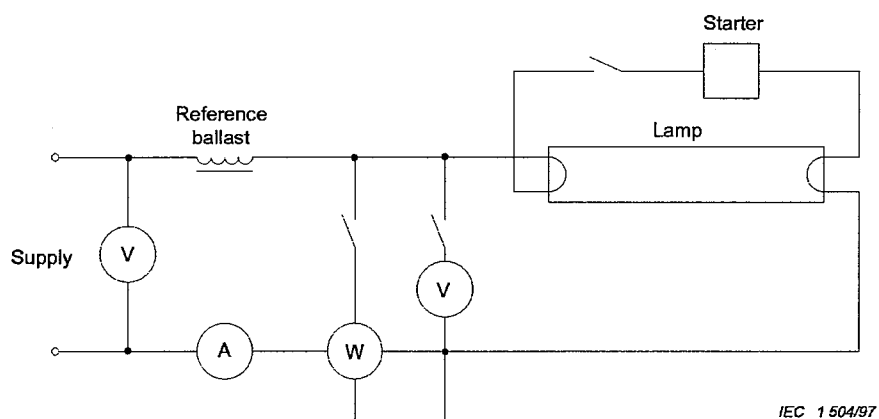

Figure B.1 – Circuit diagram for measurement of electrical and photometric characteristics for lamps with preheated cathodes
- figure B.1 for lamps having preheated cathodes;